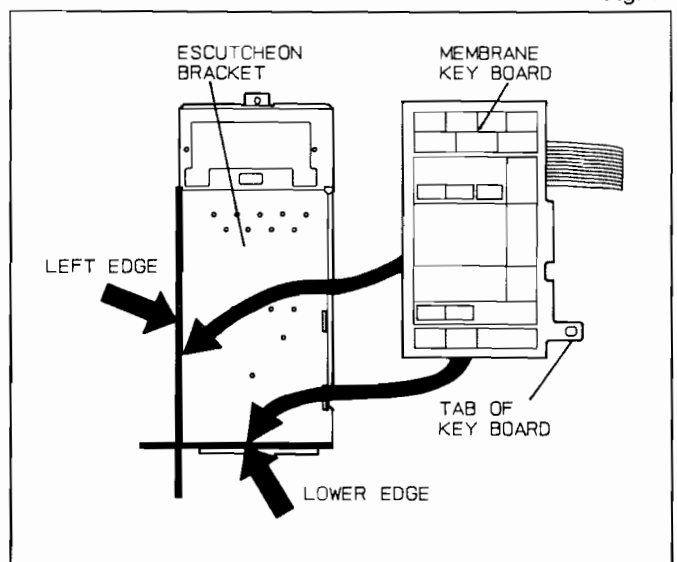

Fig. 20
- (F) Remove escutcheon bracket from escutcheon base by freeing 4 catch hooks on the escutcheon base.
- (G) Remove 1 screw holding membrane key board's tab and peel off the membrane key board from the escutcheon bracket. (Fig. 20)
NOTE: Make sure that new membrane key board is aligned to the left and lower edges of the escutcheon bracket. (Fig. 20)